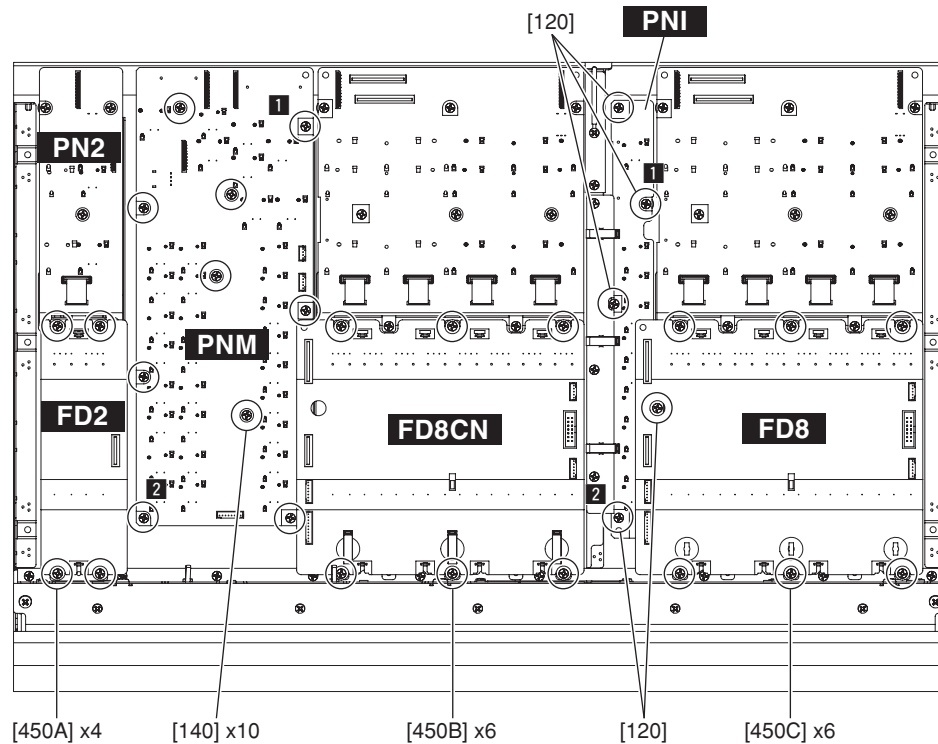

Fig. 9 (図9)
- B-6-3. Remove the four (4) screws marked [450A]. The FD2 circuit board can then be removed. (Fig. 9)
(図9)
- B-7-3. Remove the six (6) screws marked [450B]. The FD8CN circuit board can then be removed. (Fig. 9)
- B-8-3. Remove the six (6) screws marked [450C]. The FD8 circuit board can then be removed. (Fig. 9)
- B-9-3. Remove the ten (10) screws marked [140]. The PNM circuit board can then be removed. (Fig. 9)
- * **When installing the PNM circuit board, tighten the screws **1** and **2** shown in fig. 9 in numerical order and then tighten the other screws.**
- B-10-2. Remove the five (5) screws marked [120]. The PNI circuit board can then be removed. (Fig. 9)
- * **When installing the PNI circuit board, tighten the screws **1** and **2** shown in fig. 9 in numerical order and then tighten the other screws.**
(図 9)
- ※ **PNM シートを取り付ける際は、図 9 に示す **1**、**2** の順にネジを締めてから他のネジを締めてください。**
- ※ **PNI シートを取り付ける際は、図 9 に示す **1**、**2** の順にネジを締めてから他のネジを締めてください。**